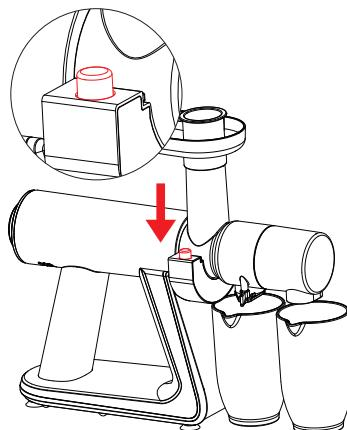

Рис. 1
1. Press the lock button (4) and insert the feeding chute (3) aligning the tabs on the chute with the slots on the motor unit (12) (Fig. 1 and 2).